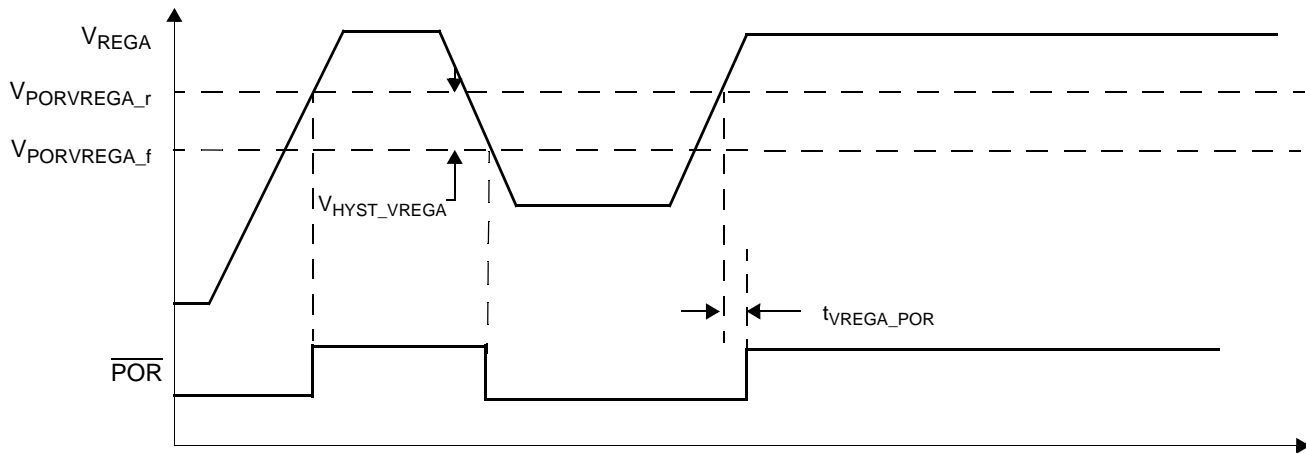

Figure 7.  $V_{REGA}$  Under Voltage Detection
| 96  | $V_{REGA}$ Undervoltage Reset Delay (See Figure 7)$V_{REGA} < V_{PORVREGA\_f}$ to POR assertion                          | $t_{VREGA\_POR}$        | —             | —                 | 5                 | $\mu$ s     | (3) |